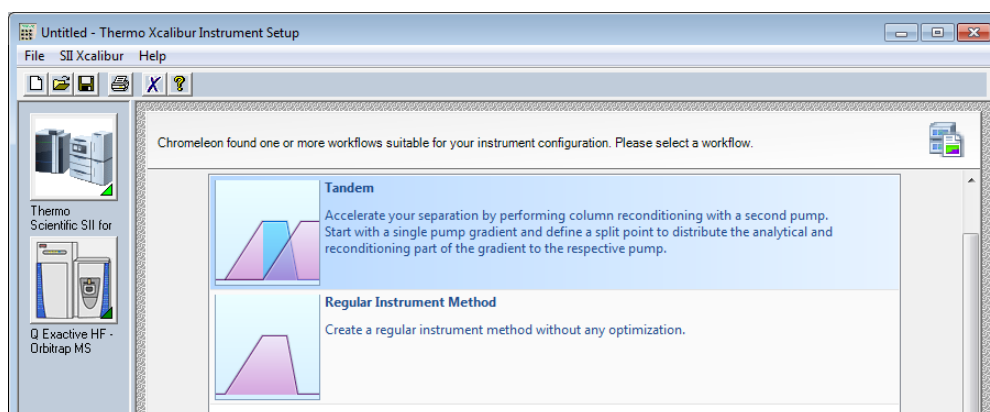

Figure 12: Instrument Method Wizard
- b. Define the currently used **single pump method**, the wizard will create a Tandem Method automatically (Figure 12). By setting the **split point**, typically after the analytical gradient, the separation of the analytical part and the reconditioning part will be specified.